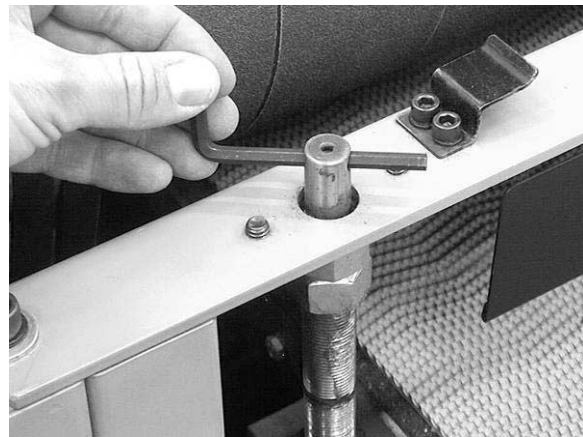

Figure 13
4. Insert a tool, such as a hex wrench or screwdriver, through the hole on top of the leadscrew (Fig 13) at that corner of the table that is lowest.